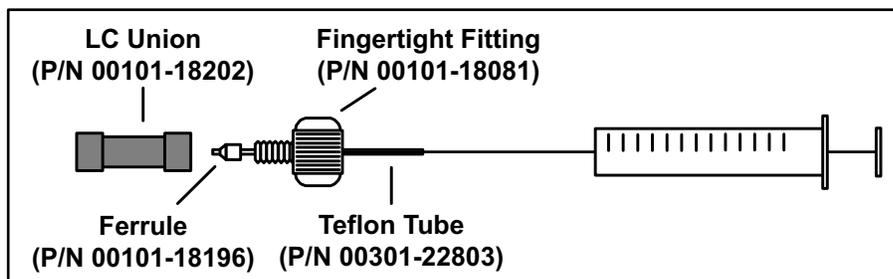

Figure 56. APCI/MS plumbing connections for the syringe pump
1. Connect a 4 cm (1.5 in) segment of Teflon tubing with a (brown) fingertight fitting and a (brown) ferrule to the (black) LC union. See Figure 56.